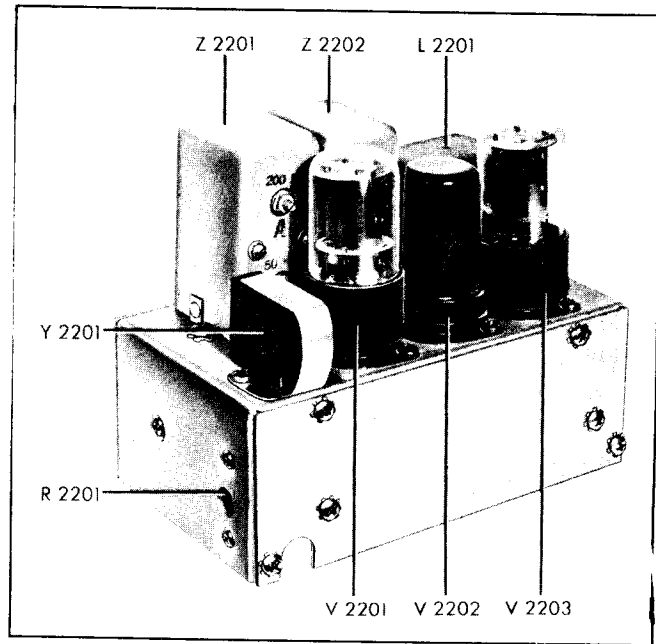

Figure 2-3. MCW-CFI Unit — Top View
(g) Place "EMISSION" switch on MCW position and close "TEST" switch. Power should be delivered to the antenna and the plate current meter should read 190 or higher. If this reading is not obtained, readjust the MCW control until a reading of 190 is secured. This adjustment, marked "R2201" in figure 2-3, is located inside the transmitter. See paragraph 7 in the MAINTENANCE section (V) which describes this adjustment.